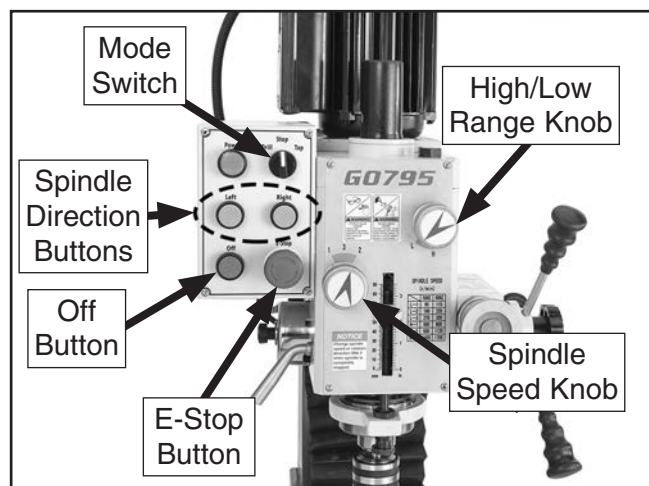

Figure 13. Location of control panel and spindle speed controls.
5. Turn high/low range knob to "L" and spindle speed knob to "2" (see **Figure 13**). This selects a spindle speed of 220 RPM (refer to spindle speed chart on headstock).
6. Twist E-stop button clockwise until it pops out (see **Figure 13**)—this resets the button and enables power to control panel and motor.
7. Press "Left" button (see **Figure 13**). Spindle should rotate clockwise (as viewed from top) and machine should run smoothly with little to no vibration or rubbing noises.